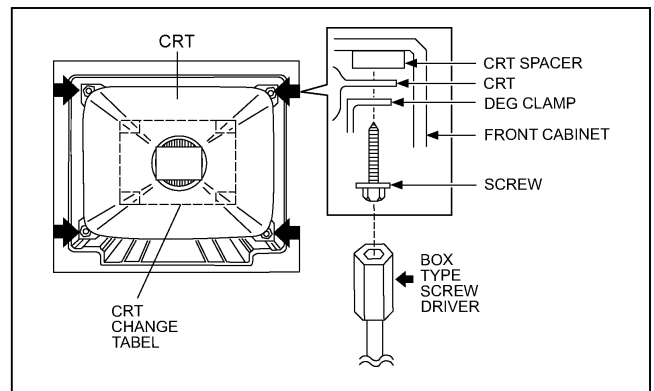

Fig.4
3. Remove 4 screws marked by arrows with a box type screw driver as shown in Fig.4.